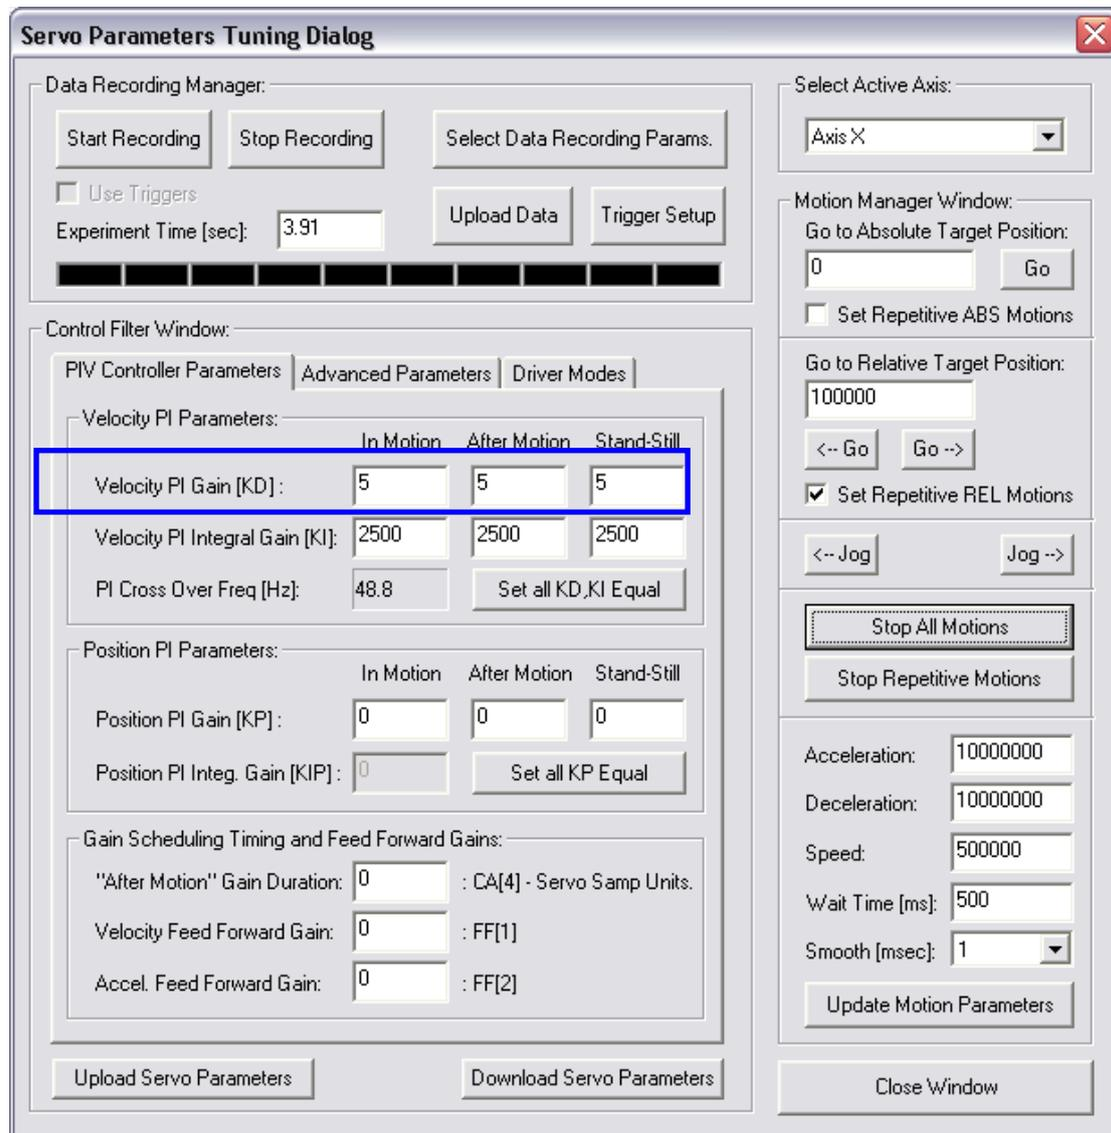

Figure 11: Setting the "PIV Controller Parameters"
- In the “PIV Controller Parameters” tab gradually increase the “Velocity Gain [KD]” from 5 to 10 (use the button, see Figure 11), until an audible (high frequency) sound appears. At this point, divide the KD parameter by 2. As a result, the sound disappears and the stage runs smoothly and nicely.